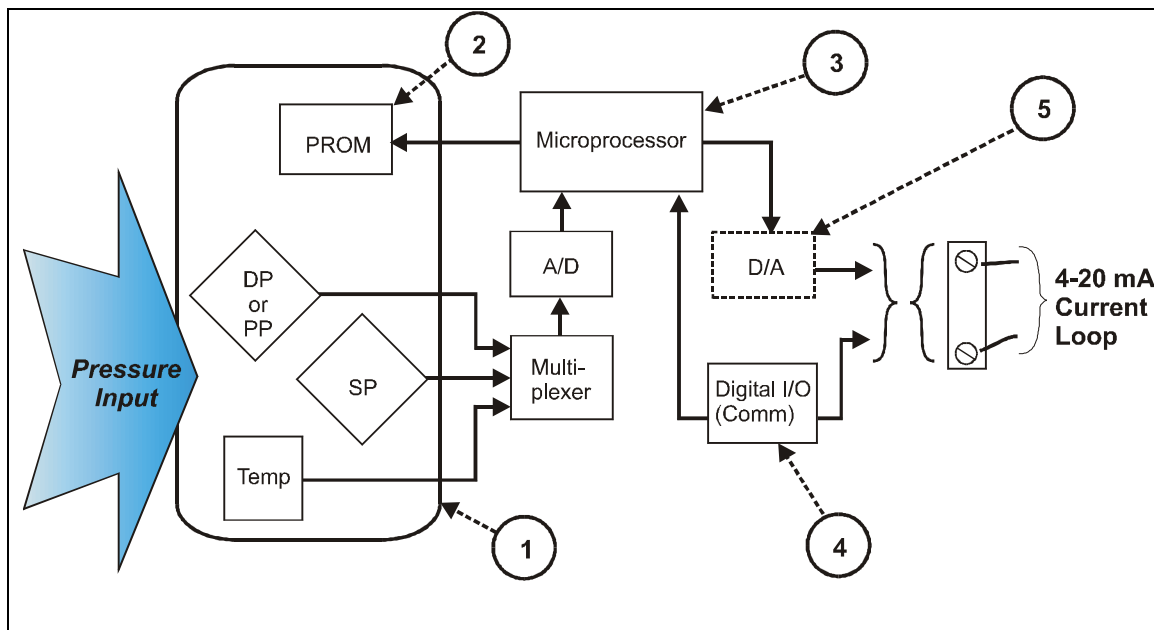

Figure 2-1 Honeywell ST 3000/ ST 800 Smart Transmitter - Analog mode
The characteristics of a typical Honeywell Smart Pressure Transmitter (DE Protocol) are summarized in Figure 2-1 through Figure 2-5, following.
As indicated by key number (1) in Figure 2-1, the sensor is a sealed assembly that typically includes three separate sensors: Differential Pressure (DP), Static Pressure (SP) and Temperature (Temp).
The digital-to-analog converter (D/A) shown at key number (5) in Figure 2-1 is shown as a box with a dotted line to indicate that analog output mode is a user-selectable feature, for use in an application whose receiving equipment requires an analog input.
Note that the Digital I/O (Comm) (communications) box (4) is shown in Figure 2-1 with solid line to indicate that the digital communications path is available at all times, even when analog mode is selected.